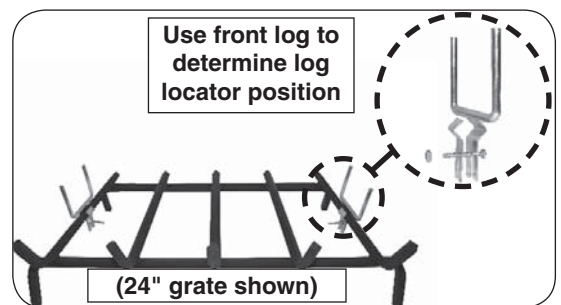
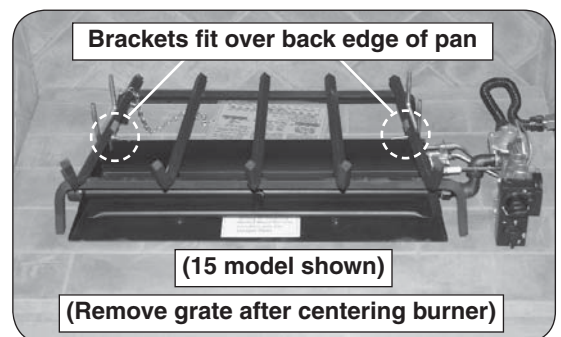
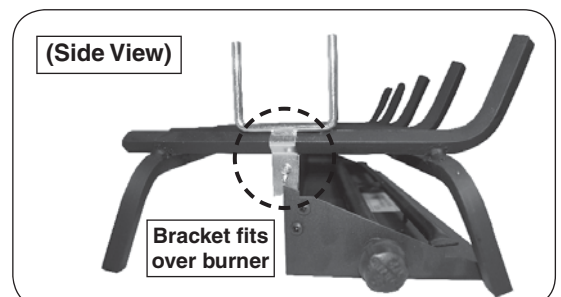

Fig. 19-3 Attach log locators to grate
Fig. 19-4 Position grate
Fig. 19-5 Grate placement detail
1. Locate the grate (outside of the fireplace) and attach the log locators to the 2 outer bars of the grate using the provided screws and nuts (see Fig. 19-3 and Fig. 19-5). The log locators should be loosely positioned toward the middle of the outer bars and oriented as shown in Fig. 19-3. Temporarily place the front log at the front of the grate, to correctly determine the log locator position. Slide the log locators up against the rear of the front log. Tighten the log locators in place. Remove the front log.
2. Position the grate over the burner pan (in fireplace) so the log locator brackets fit over the back edge of the pan to lock it in position. Ensure the assembly is centered from left to right. See Fig. 19-4 and Fig. 19-5.